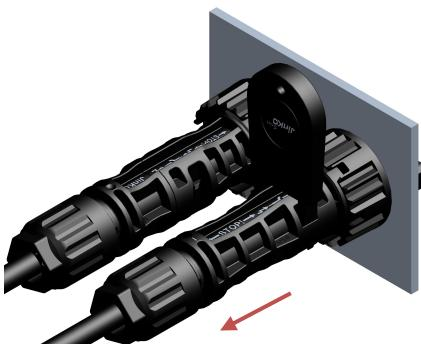

Figure 8
- ✧ 拉拔电缆连接器，即可分开公母连接器（如图 8&9）。
Pull the cable connector by hand respectively. The connector can now be separated (Fig.8&9).